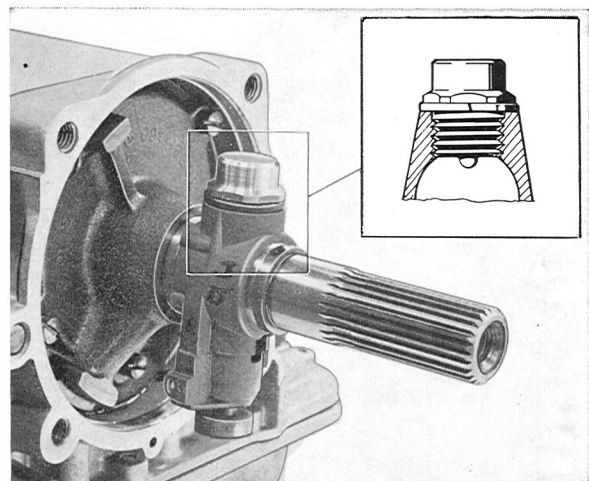

Fig. 4-109. Governor and driven shaft
5. Push the governor onto the shaft as shown in Fig. 4-109. Make sure that the bolt enters the recess in the shaft. Tighten the bolt to a torque of 20—25 Nm (2.0—2.5 kgm = 15—18 lb.ft.). The torque must not be exceeded. NOTE: It is not certain that the spring washer will be fully compressed when tightening the bolt.